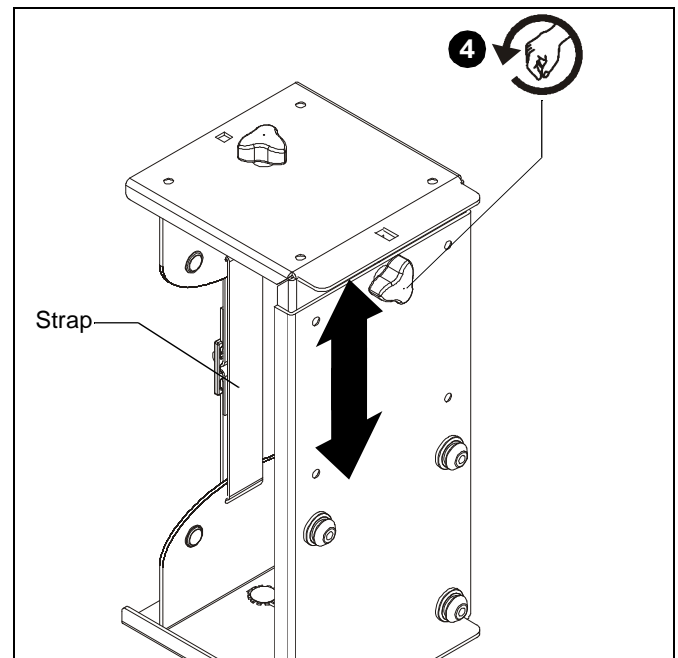

Figure 4
4. Loosen adjustment knob at the back of the mounting unit and adjust height of mount to a height greater than the height of the CPU. Loosen strap at the front of the mount if necessary. (See Figure 4)